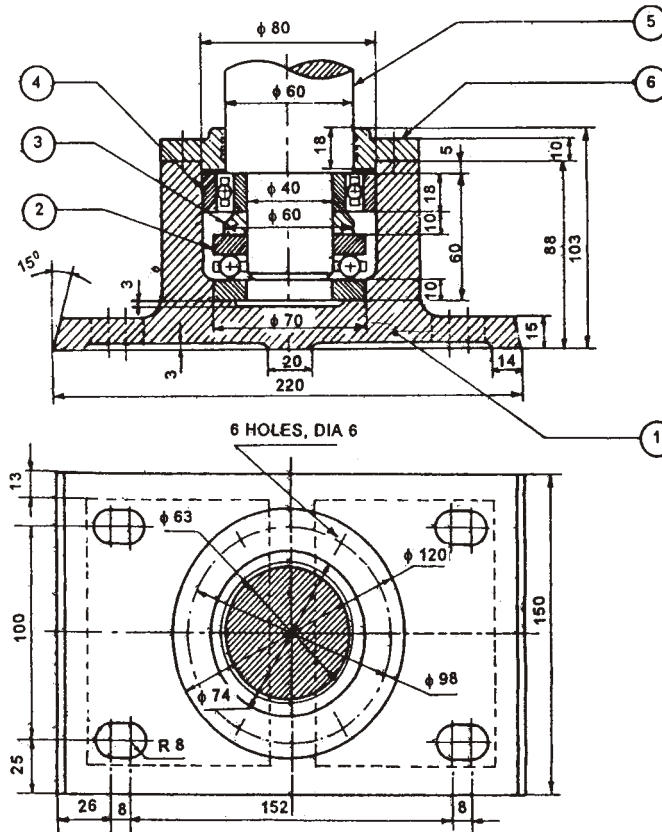

Fig. 2
- \* 6. Study the given assembly drawing of the foot-step bearing shown in Fig. 2 :